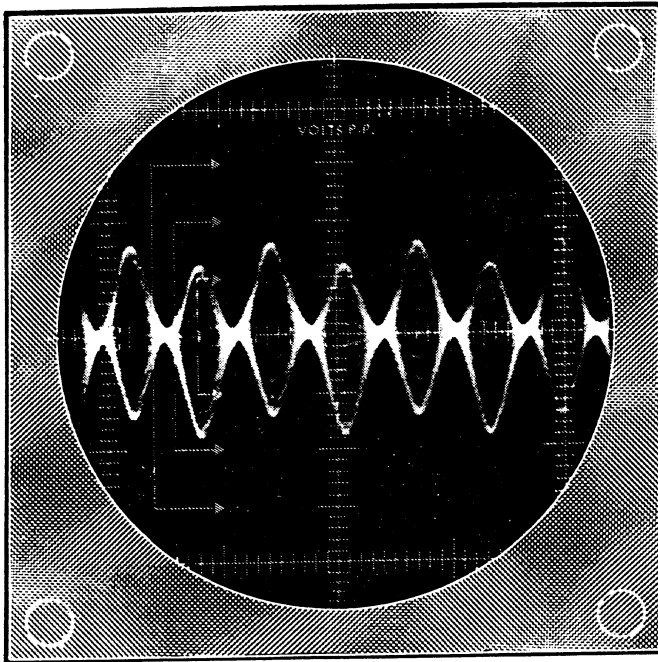

Figure 8A
- () Refer to the oscilloscope patterns shown in Figures 8A, 8B, and 8C. Then compare these patterns to the ones you obtain on your oscilloscope with the FUNCTION switch in the PHASE TEST, LEFT CHANNEL, and RIGHT CHANNEL positions.